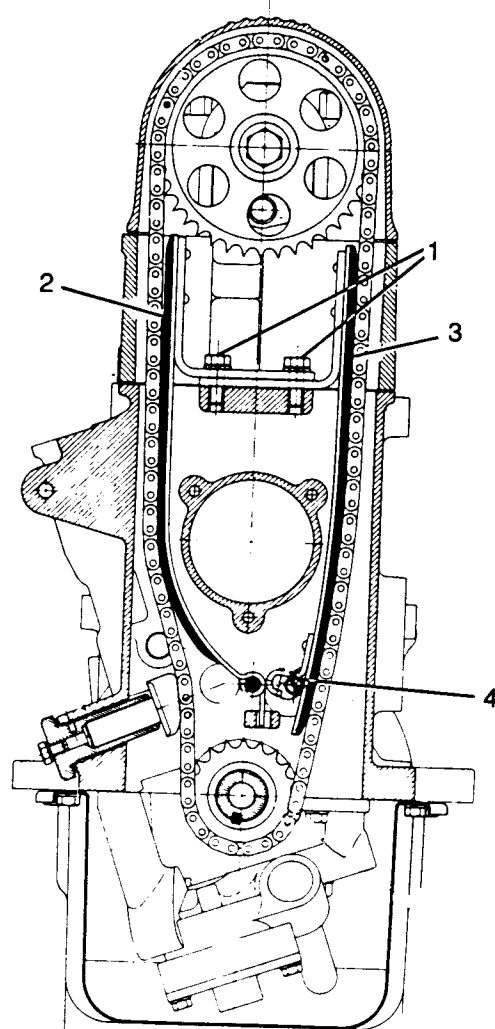

Fig B4.110
- (13) Refer to Fig B4.110. Remove the guide retaining bolts (1).
- (14) Release the RH guide (2) from the engine.
- (15) Release the LH guide (3) from the adjuster (4) at the bottom and remove the guide by lifting and turning through 90° anti-clockwise.